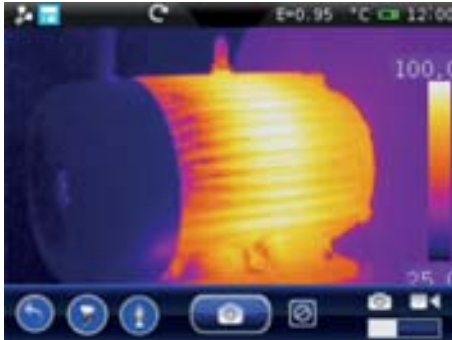

Fig. 61: Inserting a voice annotation
1. Save the image according to the procedure described in § 5.2.4.1. At the end of the operation, the instrument's situation is shown in Fig. 61 – Left side.
2. Touch the icon “”. The screen Fig. 61 – Right side is shown on the display